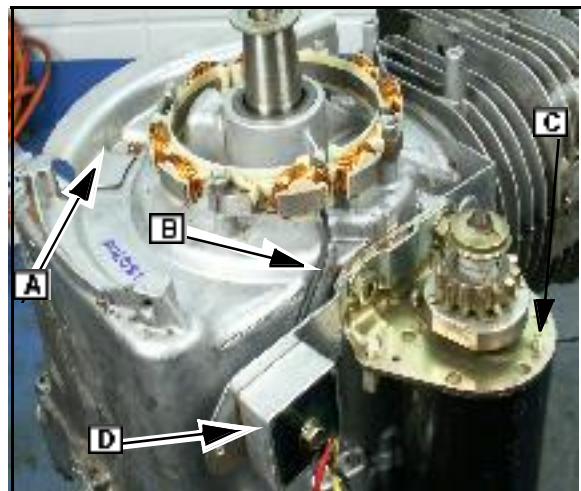

Fig. 49
1. Install flywheel guard ([A] Fig. 49).
2. Install alternator with the power output wires positioned as shown ([B] Fig. 49).
3. Install starter motor (C) with the bracket for the voltage regulator ([D] Fig. 49). Torque all mounting hardware to listed values.